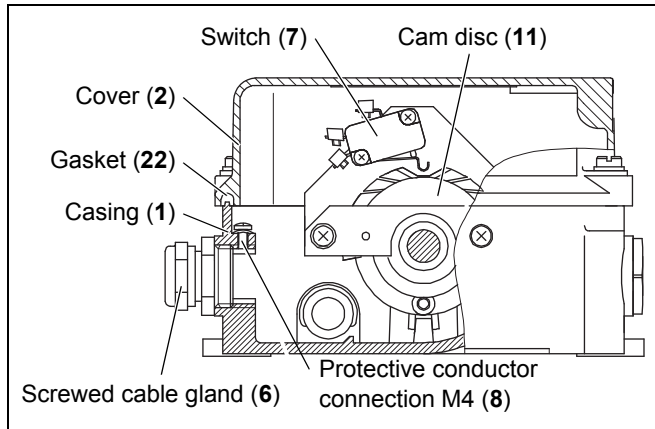

Fig. 5-6: View of the belt misalignment switch connections
2. Open the cover (2) of the belt misalignment switch by loosening the two screws (5).
3. Loosen the nut on the screwed cable gland (6) and thread the connection cable (\varnothing 11 mm to \varnothing 16 mm) through it (see fig. 5-6).
4. Connect the connection cable to the terminals of the switch (7) in the cover (2) of the belt misalignment